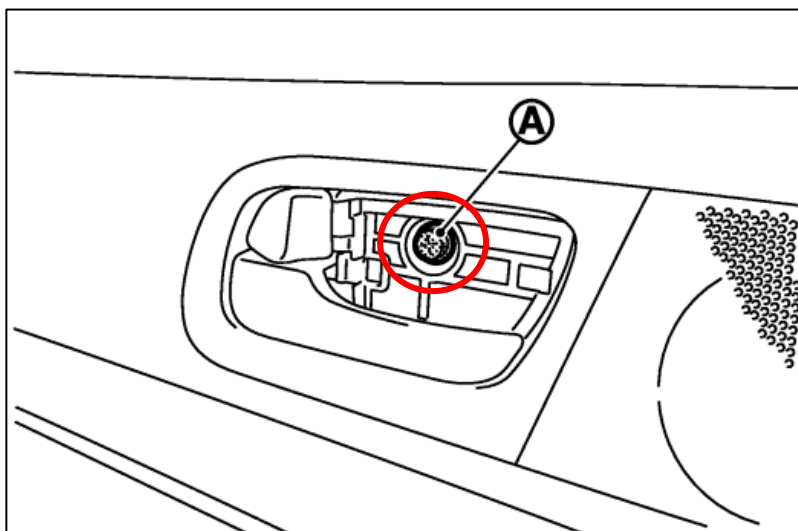

Figure 47
4. Remove the (1) one 10mm Bolt behind the Trim Piece that was just removed. *Figure 47.*